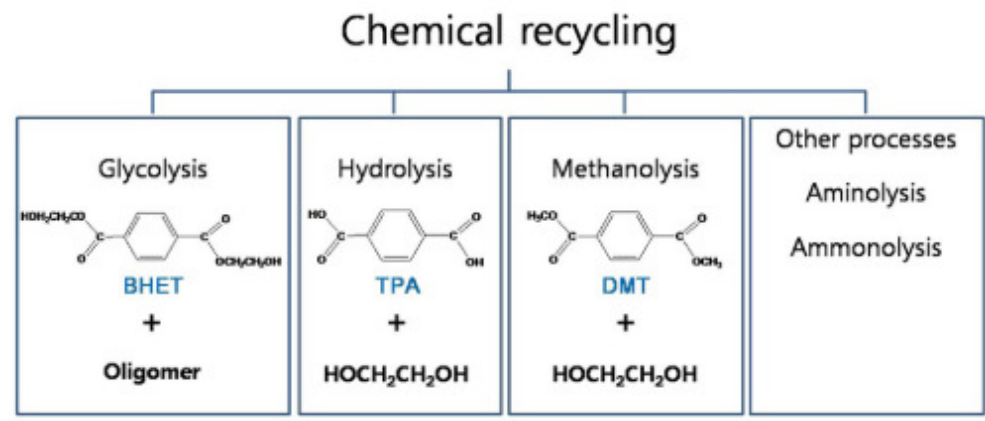

Figure 7. Most common depolymerization methods of polyester and product of each reaction ⁴
- ▶ Process: Textiles pieces are depolymerized and purified for dyes or chemicals. There are various ways to depolymerize a material, but the most common involve glycolysis, methanolysis or hydrolysis (Figure 7)⁴. Enzymatic depolymerization also exists.